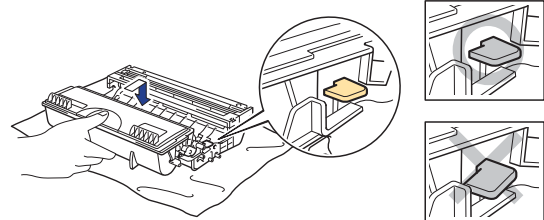

Fig. 5-5
- (4) Unpack the new drum unit.
- (5) Put the toner cartridge in the new drum unit until you hear it lock into place with a click. When the toner cartridge is installed correctly, the blue lock lever is lifted automatically. (Fig.5-5) Make sure you fit the toner cartridge properly, or it may separate from the drum unit when you pick up the drum unit assembly.